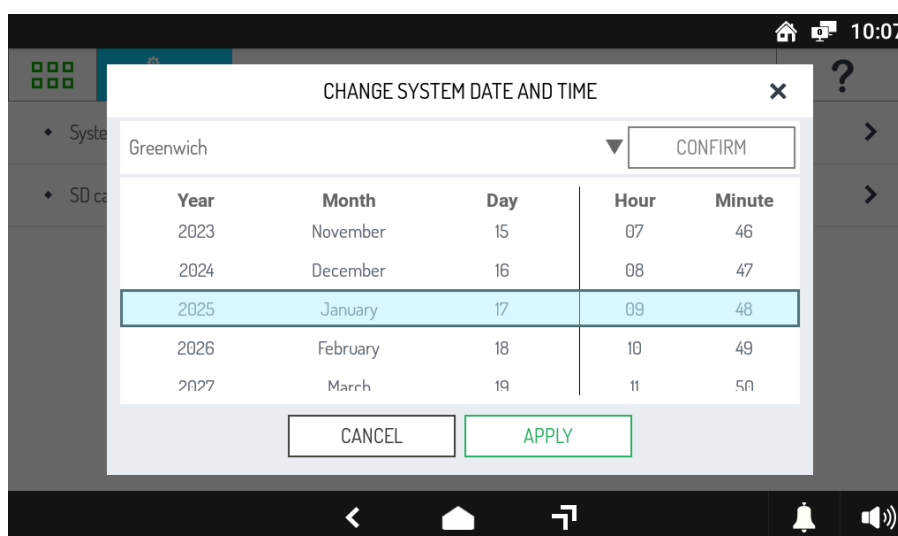

Figure 660: set date and time
- the time zone (you must enter the same time zone set in the date and time setting screen in Figure 660).